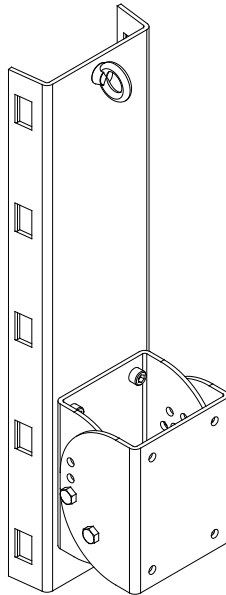
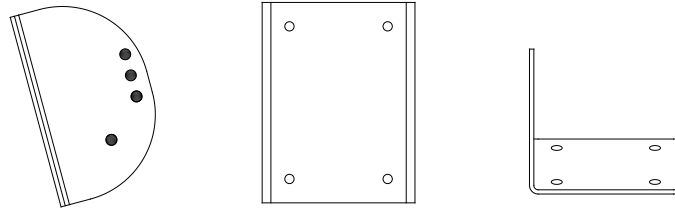

Figure 1
Figure 2
Figure 1 above represents the isometric and top views of the pole bracket, including the loudspeaker bracket section.
The loudspeaker bracket is shown separately in Figure 2 below.
1. Mount the pole mount section (see figure 1) of the bracket to the pole at the desired height on the pole. The loudspeaker bracket shown in Figure 2 should be removed prior to hanging the pole mount section. The bracket is mounted to the pole using BAND-IT stainless steel bands. **DO NOT SUSTITUTE** bands of other material or other widths! There are **FIVE** locations on the pole bracket for bands. **ALL FIVE LOCATIONS MUST BE USED.** Figure 4 illustrates the locations for the stainless steel band clamps.
4. The loudspeaker may now be placed on the pole bracket. (main bracket see figures 1 and 2)